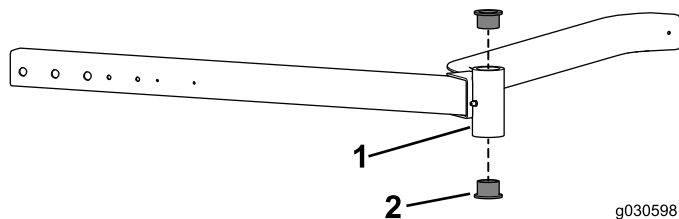

Figure 34
3. Use a pin punch or similar tool to remove the bushings from the tube (Figure 34).